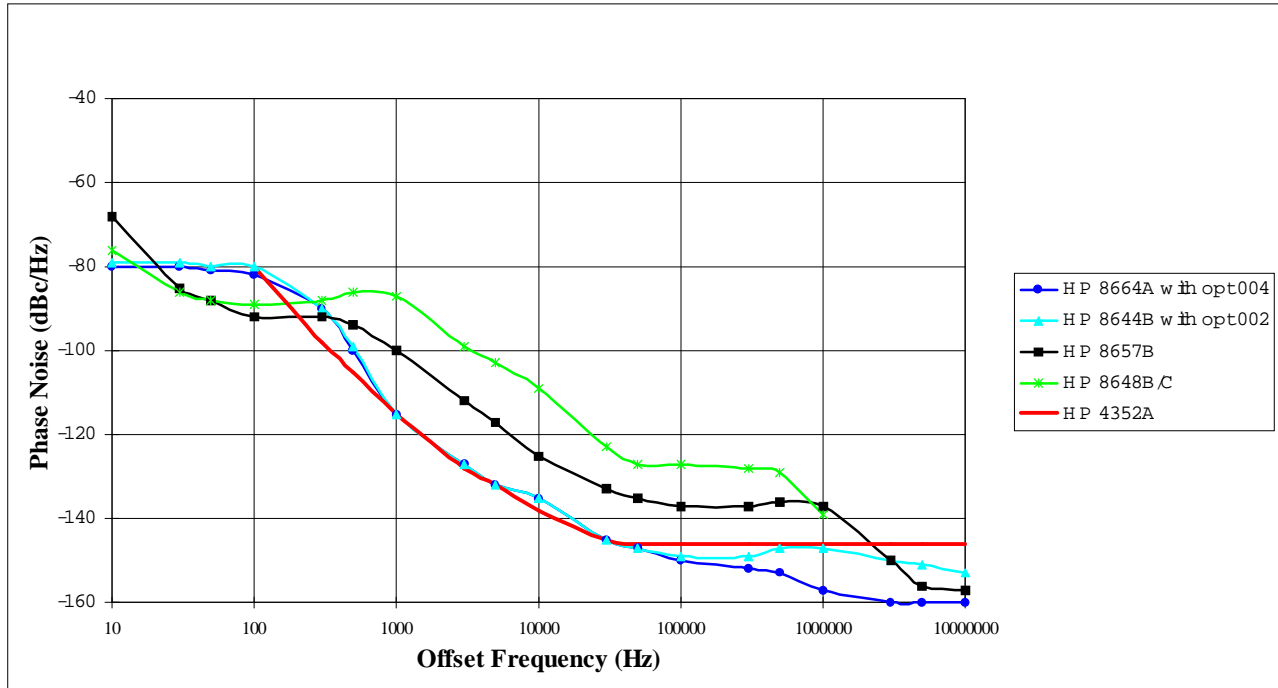

Figure 1. Phase Noise Comparison @1 GHz Carrier between HP 4352A and Recommended Signal Generators
2. Choose the signal generator which can achieve the phase noise measurement suitable for your VCO requirements. Refer to Figure 1. Phase Noise Comparison @1 GHz Carrier between HP 4352A and Recommended Signal Generators. Compare the phase noise of the HP 4352A with it of your chosen signal generator using Figure 1. Observe the worse case value of the phase noise as